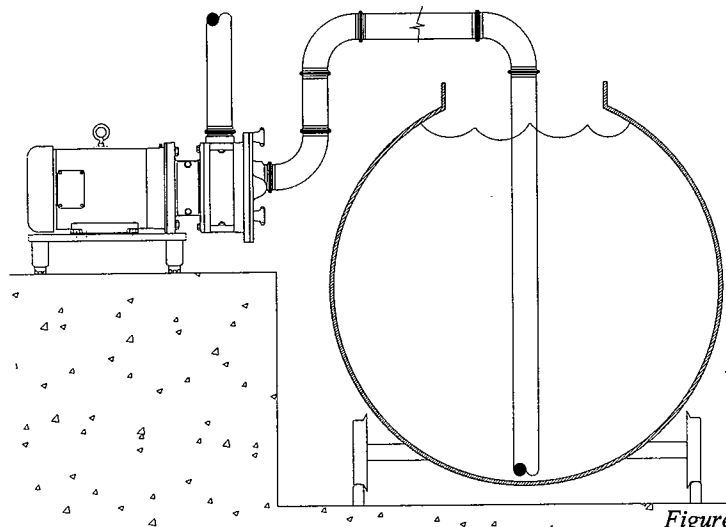

Figure 2
- In applications where the pump may lose its prime when shut off, an elbow or foot valve (or check valve) may be installed at the piping inlet to prevent the liquid from draining out of the suction line. See **Figure 2**.